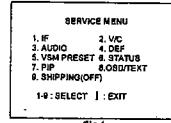

Fig.1
(1) Power off	Switch the power off and unplug the power cord from the outlet.
(2) Replace ICs.	Be sure to use memory ICs written with the initial data values.
(3) Power on	Plug the power cord into the outlet and switch the power on.
(4) Check and set SYSTEM CONSTANT SET:	<ul style="list-style-type: none"> <li>1) Press the INFORMATION key and the MUTING key of the REMOTE CONTROL UNIT simultaneously.</li> <li>2) The SERVICE MENU screen of Fig. 1 will be displayed.</li> <li>3) While the SERVICE MENU is displayed, press the INFORMATION key and MUTING key simultaneously, and the SYSTEM CONSTANT SET screen of Fig. 2 will be displayed.</li> <li>4) Check the setting values of the SYSTEM CONSTANT SET of Table 1. If the value is different, select the setting item with the FUNCTION UP/DOWN key, and set the correct value with the FUNCTION +/- key.</li> <li>5) Press the MENU key to memorize the setting value.</li> <li>6) Press the INFORMATION key twice, and return to the normal screen.</li> </ul>